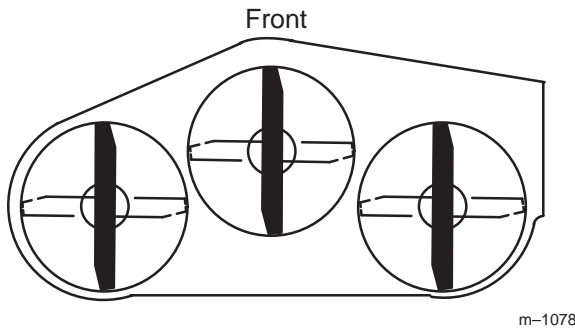
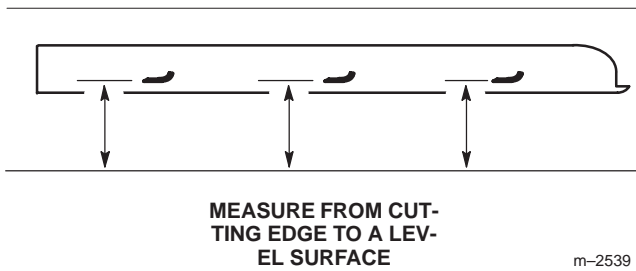

Figure 31
Figure 32
1. Rotate the blades until the ends face forward and backward (Fig. 31). Measure from a level surface to the cutting edge of the blades (Fig. 32). Note this dimension.